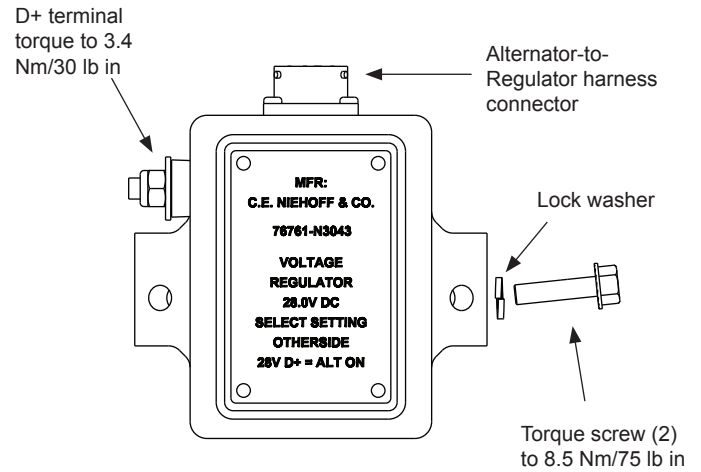

Figure 4: N3043 Regulator
1. Align regulator tabs with screw holes on alternator shell and install mounting screws. Torque screws to 8.5 Nm/75 lb. in. See Figure 4.